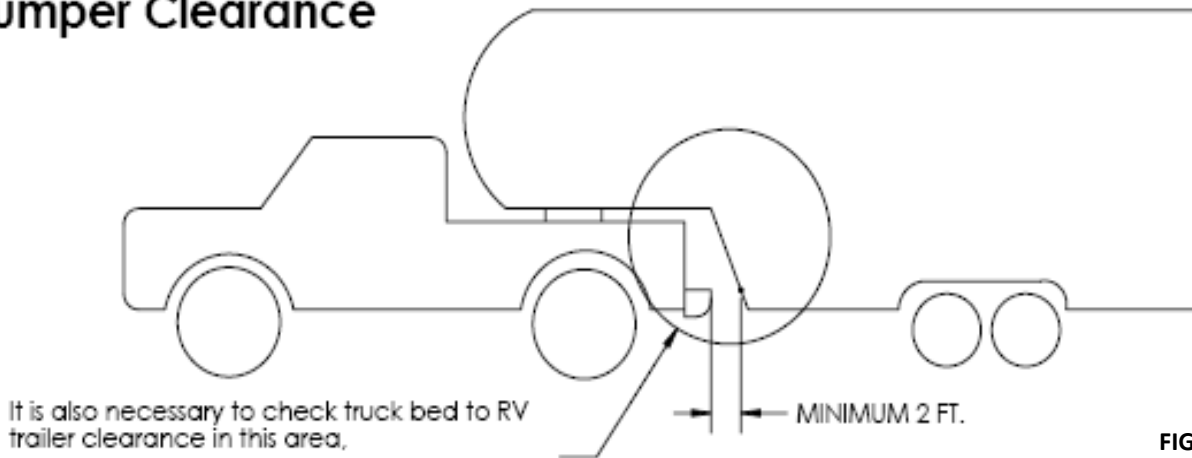

FIGURE 3
3. A minimum clearance between the bumper and trailer (Measured at the same height) of 2 ft. is recommended (Figure 3).
The measurements in figures 3, 4 & 5 are guidelines; if your measurements are close to these numbers, re-check clearances. If vehicle and/or trailer has any added vanity accessories (i.e., fairings, air dams, ground effects, bed rails, etc.) additional dimensioning and clearance checks must be made. Horizon Global is not responsible for damage incurred due to disregarding these clearance checks.